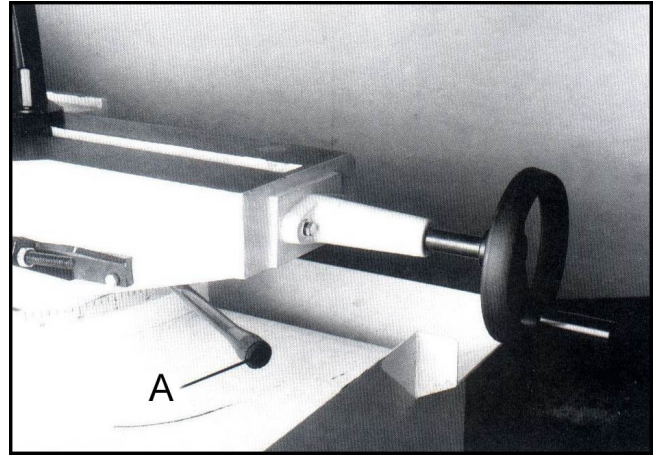

Fig. 12
2. Pull the handle (A, Fig.12) toward the front of the saw.